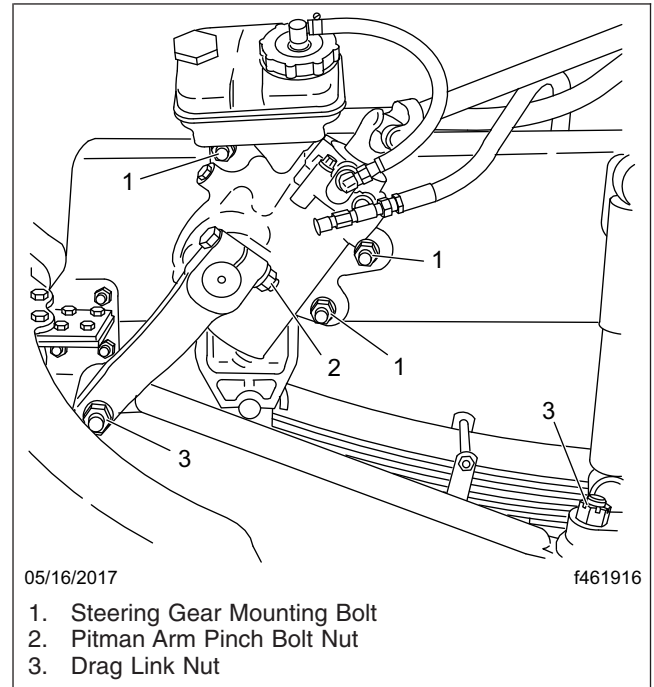

Fig. 11.15, Steering Gear Fasteners
5. Inspect the steering components. See **Fig. 11.15**.